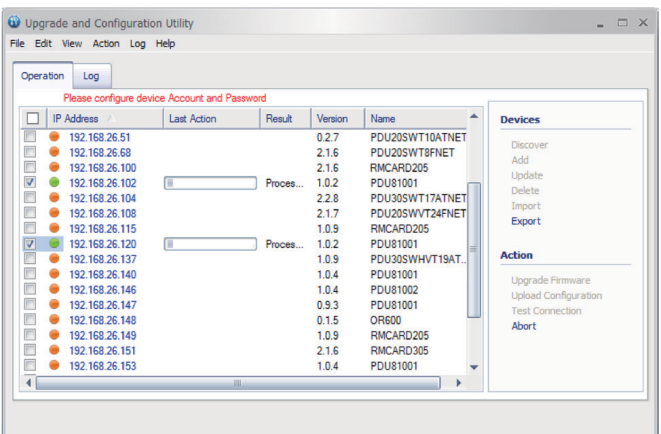

Figure 6
- The upgrade progress bar will show in Last Action column (Shown in Figure 6).